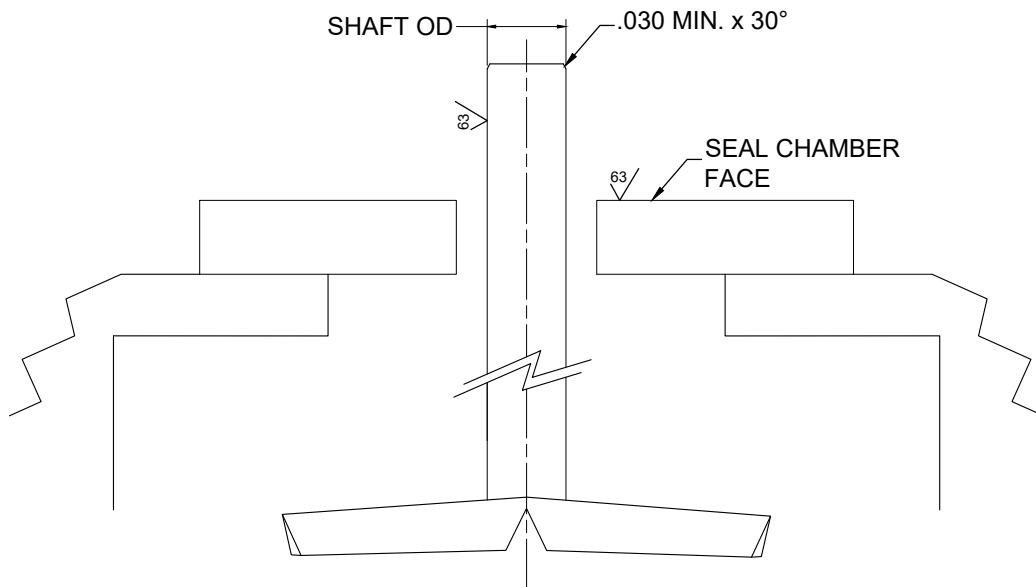

Figure 1: Surface finish and chamfer locations.
5. Sealing surfaces and the shaft or shaft sleeve must have at least a 63 Ra- μ m surface finish as seen in Figure 1.
6. For ease of installation, the leading edge of the shaft or sleeve should be chamfered as shown in Figure 1 and all parts should be deburred.